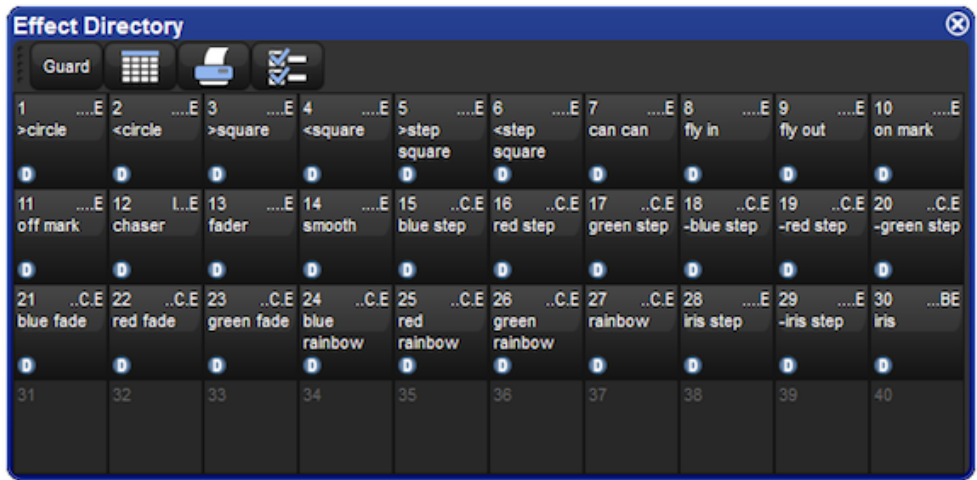

Figure 13.2. The Effect Directory
You can quickly apply effects to the current selection using predefined effects palettes in the Effect Directory; see *Figure 13.2, “The Effect Directory”*. Effects palettes for parameter functions not available in the current selection will be greyed out; for example the Iris Step palette is not available for Studio Color 575s as they do not have an iris parameter.
2. Open + Effect : the Effects Engine and Effect Directory will open; see *Figure 13.4, “The Effects Engine”* and *Figure 13.2, “The Effect Directory”*.